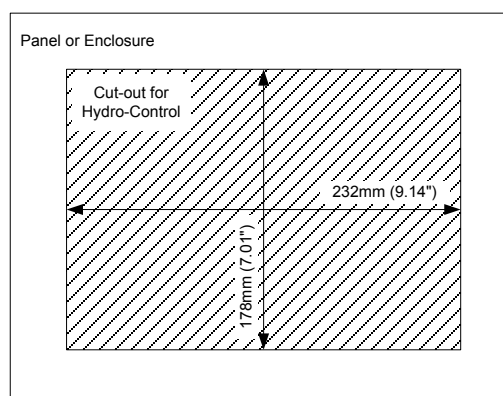

Figure 6: The panel cut-out for the Hydro-Control VI
- Cut out an aperture in the panel of the correct size. See Figure 6 for a template.